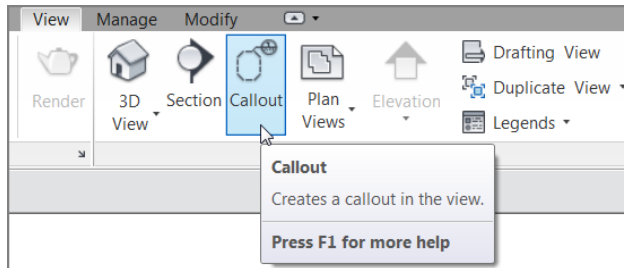

FIGURE 3.62: The Callout button is located on the View tab.
3. On the View tab, click the Callout button, as shown in Figure 3.62.